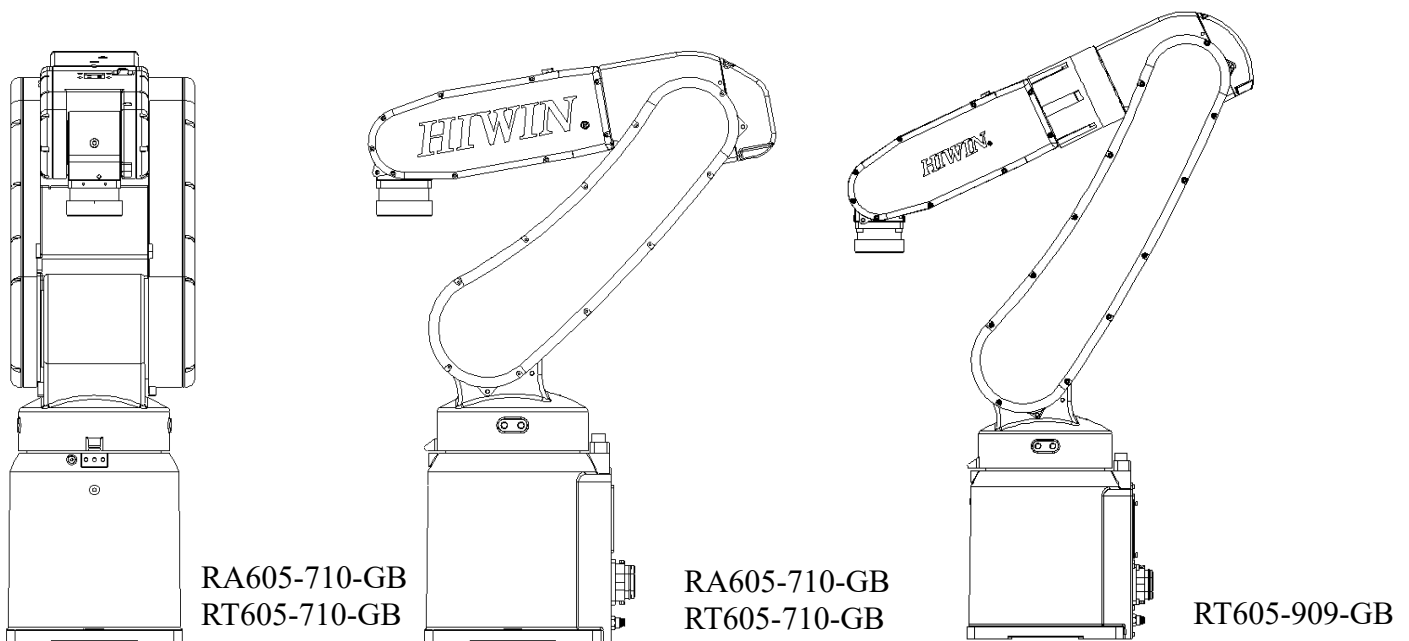

Figure 1-1 Transport posture
- Step1. Move the robot into its transport posture and the angle of each joint is shown in the table of Figure 1-1.